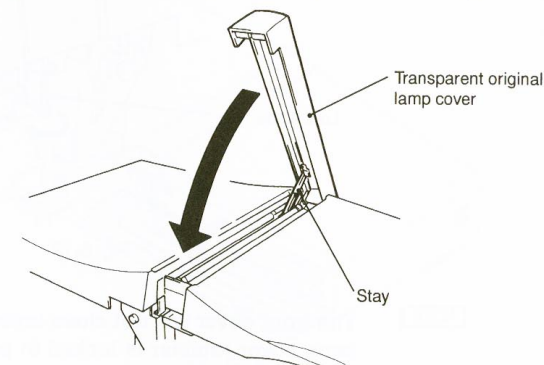

Fig. 6-15
- ⑦ Push the lamp cover stay to release the lock and gently lower the cover in the direction of the arrow in Fig. 6-15. Then press down on top of the lamp cover to lock it in its closed position.